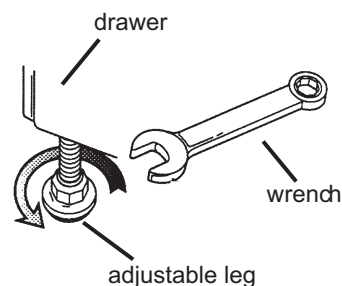

Figure 2: Adjusting the Leg Support
1. Adjust height of range and level by rotating the adjustable leg supports on the bottom of the range, using 1-1/4 inch (31.75 mm) wrench. See Figure 2: Adjusting the Leg Support.